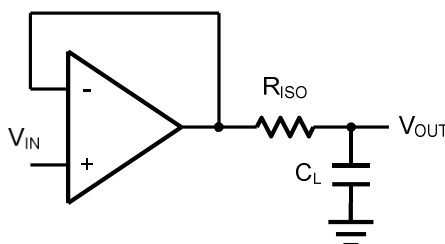
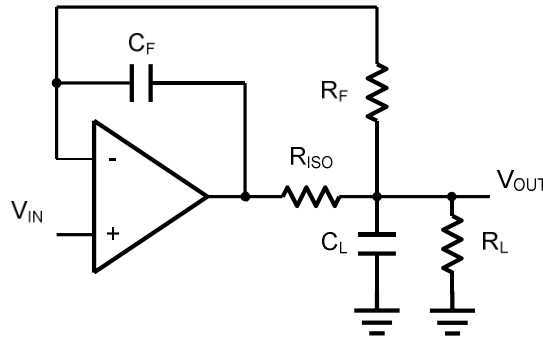

Figure 2. Indirectly Driving a Capacities Load Using Isolation Resistor
Figure 3. Indirectly Driving a Capacities Load with DC Accuracy
The HGV855x family is optimized for bandwidth and speed, not for driving capacitive loads. Output capacitance will create a pole in the amplifier's feedback path, leading to excessive peaking and potential oscillation. If dealing with load capacitance is a requirement of the application, the two strategies to consider are (1) using a small resistor in series with the amplifier's output and the load capacitance and (2) reducing the bandwidth of the amplifier's feedback loop by increasing the overall noise gain. Figure 2. shows a unity gain follower using the series resistor strategy. The resistor isolates the output from the capacitance and, more importantly, creates a zero in the feedback path that compensates for the pole created by the output capacitance.
The circuit in Figure 3 is an improvement to the one in Figure 2. R_F provides the DC accuracy by feed-forward the V_{IN} to R_L . C_F and R_{ISO} serve to counteract the loss of phase margin by feeding the high frequency component of the output signal back to the amplifier's inverting input, thereby preserving the phase margin in the overall feedback loop.